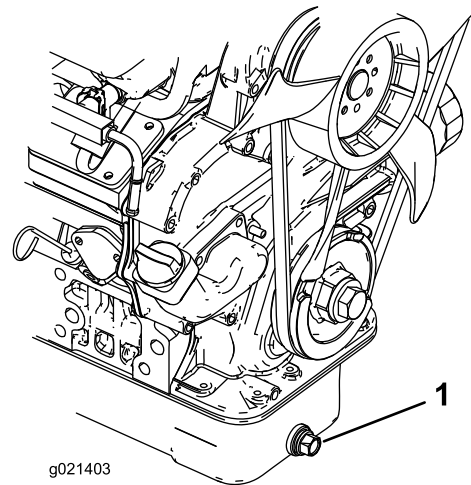

Figure 51
1. Remove the drain plug (Figure 51) and let oil flow into a drain pan. When the oil stops flowing, install the drain plug.